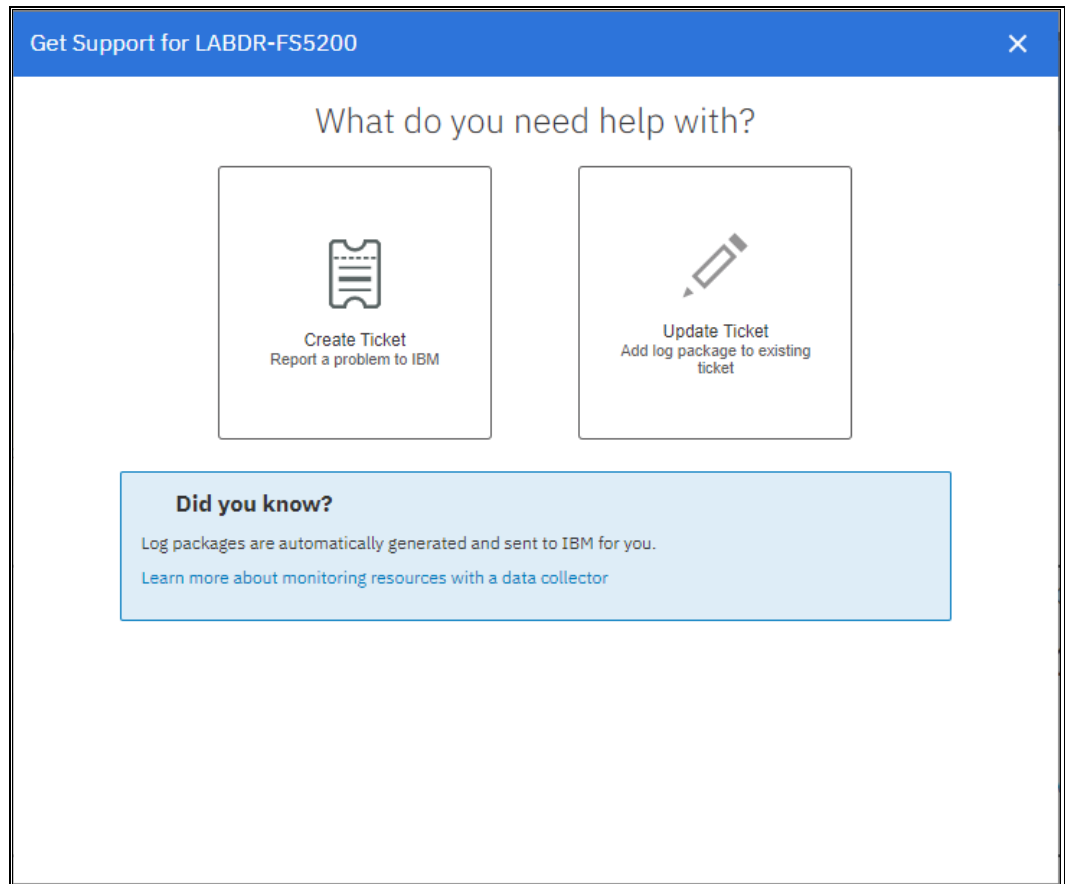

Figure 11-22 IBM Storage Insights Update Ticket
1. In IBM Storage Insights dashboard, select **Update Ticket** (see Figure 11-22).